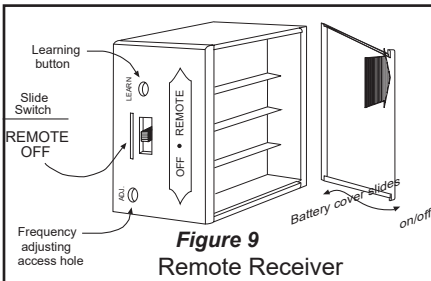

Figure 9
3. Install the 4 "AA" Batteries into the receiver (See Figure 9) ALKALINE Batteries are recommended for use in this product. Be sure to install the Batteries with (+) and (-) facing correctly.